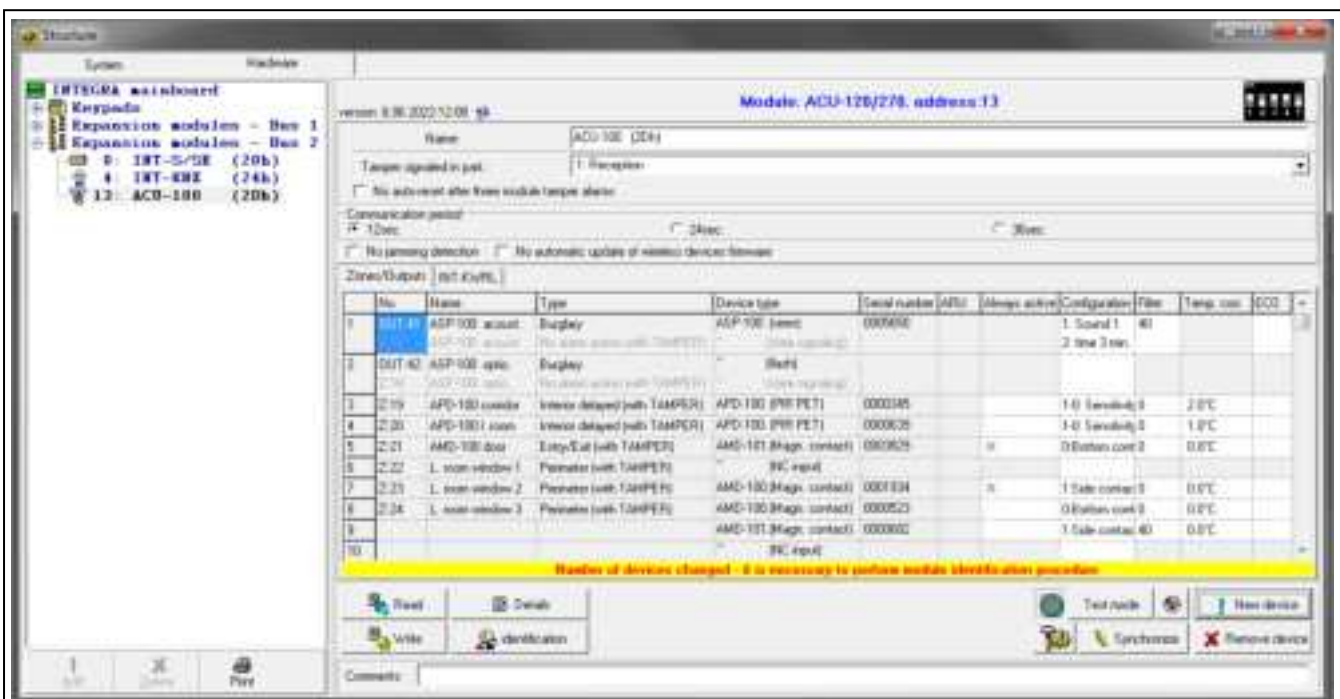

Fig. 23. DLOADX program: information displayed after registration of a new device to the controller connected in the INTEGRA system.
10. Click the “identification” button (see Fig. 23). The new wireless zones / outputs will not be available in the alarm system until the procedure of expander identification is finished.